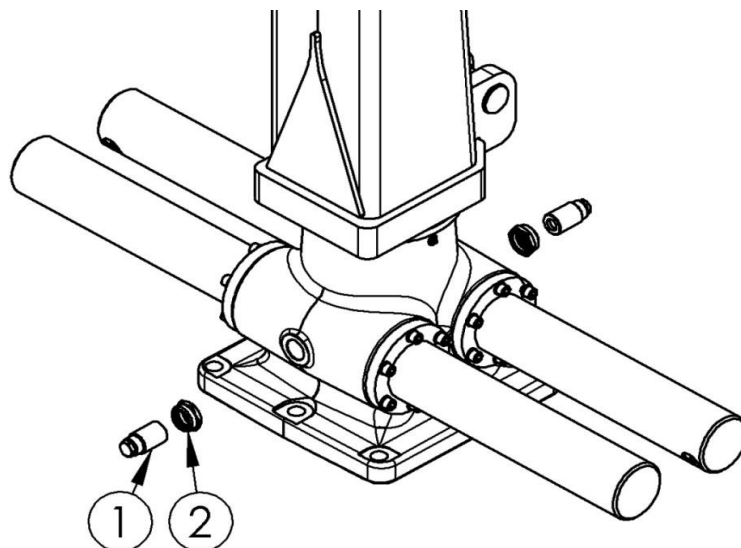

Figure 18. Adjusting racks of slewing device
- Release the locking nut widely enough, so it will not obstruct tightening (pos. 2 fig. 18).
- Tighten the bolt (pos. 1, fig. 18) against the gear rack with 20-25 Nm (2-2,5 kg*m).
- Tighten the locking nut (pos. 2 fig. 18).
2. Ensure that the slewing device is in horizontal position, as shown on fig. 18.
3. Release the lock nut (pos. 2, fig. 18).
4. Remove the bolt (pos. 1, fig. 18).
7. Tighten the lock nut according to manual's point 9.2 (pos. 2, fig. 18).